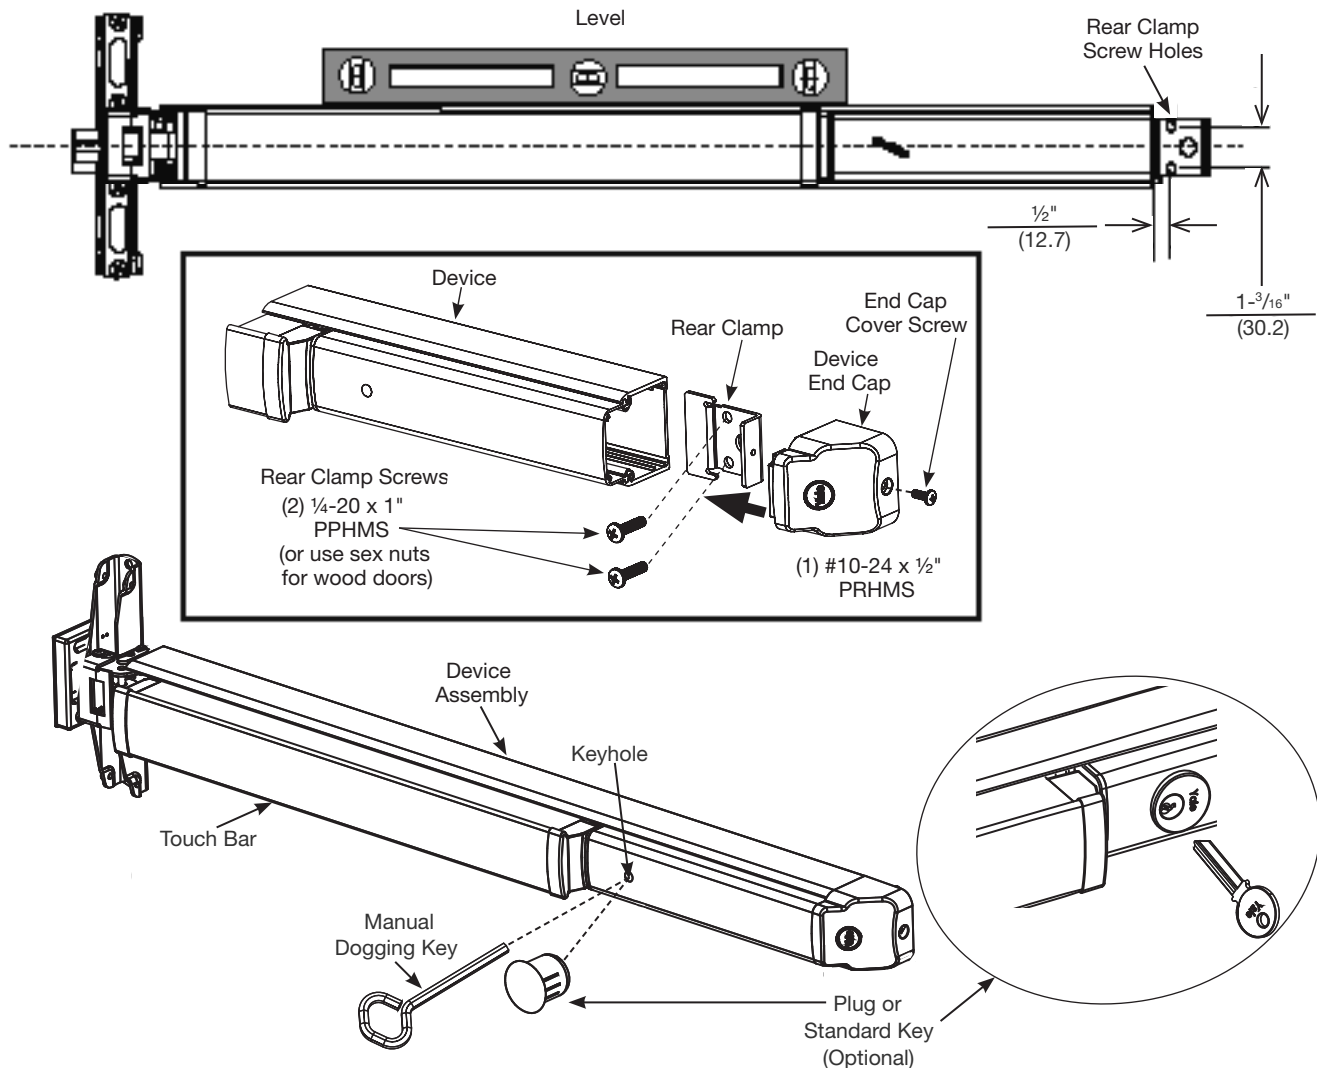

Figure 6: Install Rear Clamp & End Cap
1. With the device leveled, locate rear clamp holes and mark (ensure rear clamp is pushed flush against device). Figure 6.
2. Using the rear clamp as a template, mark and drill and tap holes for two (2) ¼-20" screws.
4. Slide end cap in place and secure with one (1) #10-24 x ½" (12.7mm) PRHMS.